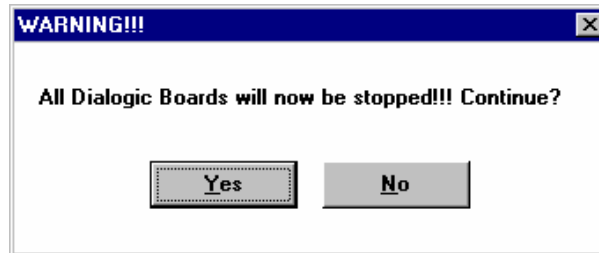
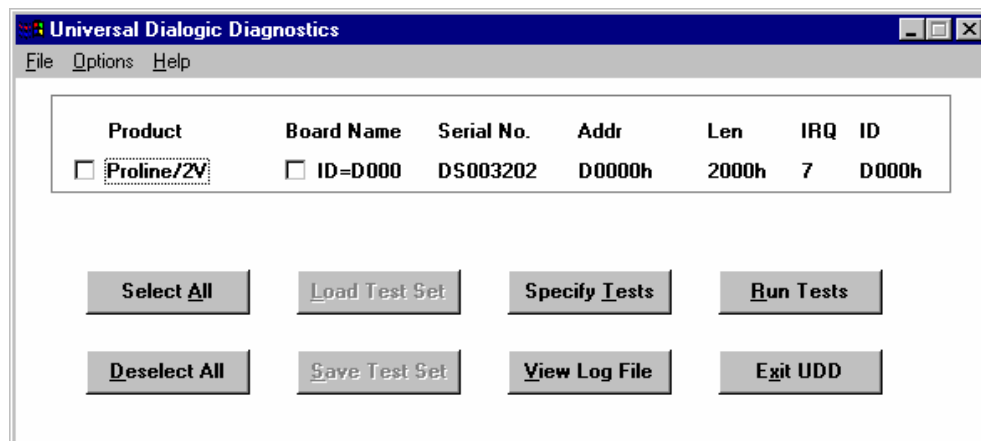

Figure B.19. Universal Dialogic Diagnostic Utility Warning
Figure B.20. Universal Dialogic Diagnostics Utility Screen
1. Go to "Program Files/Dialogic System Software/Universal Dialogic Diagnostics Utility" to start the UDDU. A message box will appear warning you that the UDDU is about to stop all configured and running Dialogic boards, as shown in **Figure B.19**. Click **Yes** to stop the Dialogic boards, in order for the UDDU to work properly. This opens the **Universal Dialogic Diagnostics** screen, shown in **Figure B.20**.
2. Check the **Proline/2V** check box, as shown in Figure B.20, and then click the **Specify Tests** button.